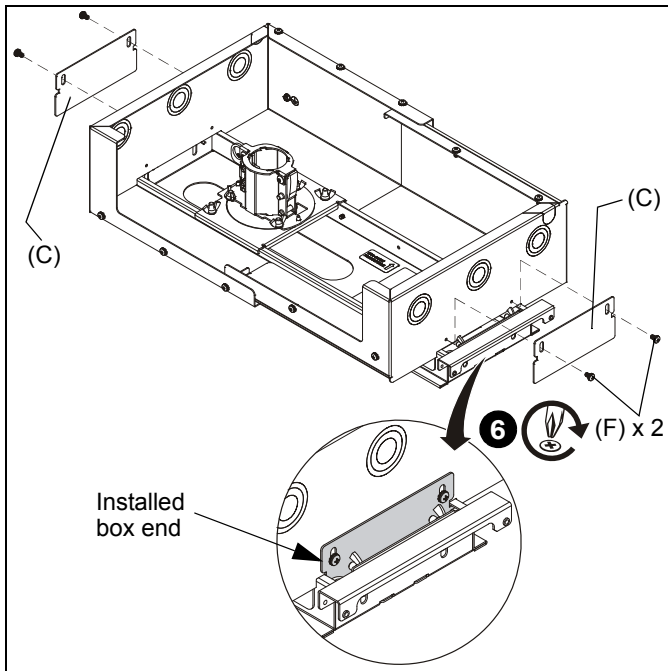

Figure 5
6. Fasten one box end (C) to each end of the CMA474 using two 10-24 x 3/8" Phillips pan head with external teeth (F) on each box end. (See Figure 5)